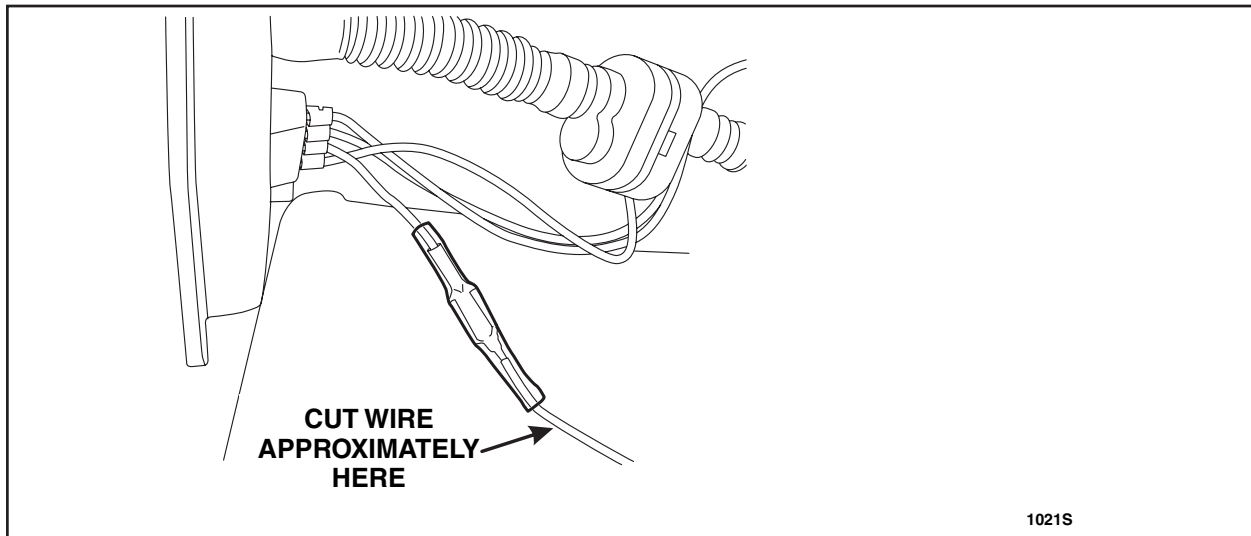

FIGURE 10
26. Cut the existing yellow wire between the shrink wrap and sender to allow better access to the terminal connection. See Figure 10.